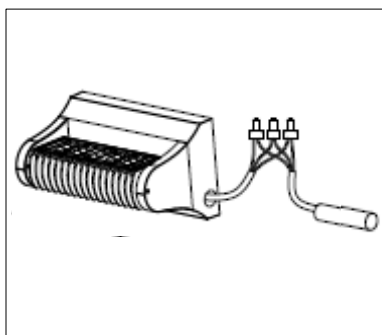

Figure 13
7. Connect the incoming power wires to the luminaire power wires (see Figure 13). Refer to the Wiring Diagram.